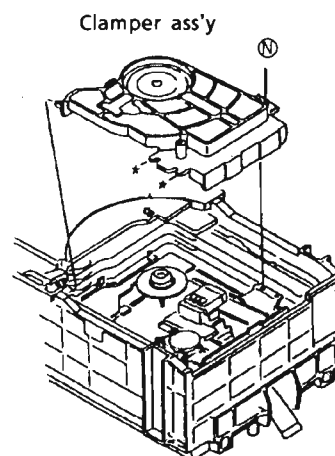

Fig.28
5. Remove a screw ⑤ securing center of the clamber ass'y. (See Fig. 28)